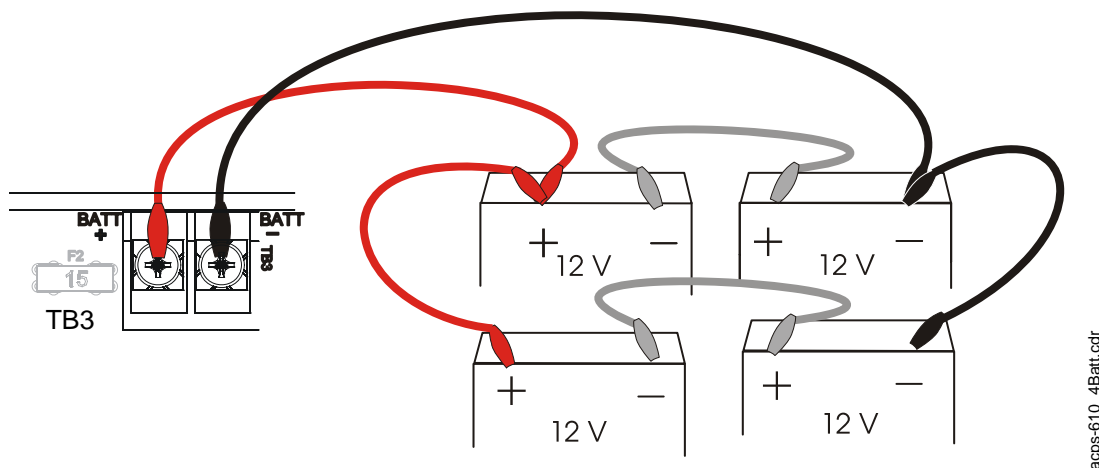

Figure 2.12 Connecting Four Batteries to the Power Supply
4. **Only after initial system power-up**, connect the two pairs of batteries. Use two battery interconnect cables to tie each unoccupied negative (-) terminal to an unoccupied positive (+) terminal, as shown in Figure 2.12.